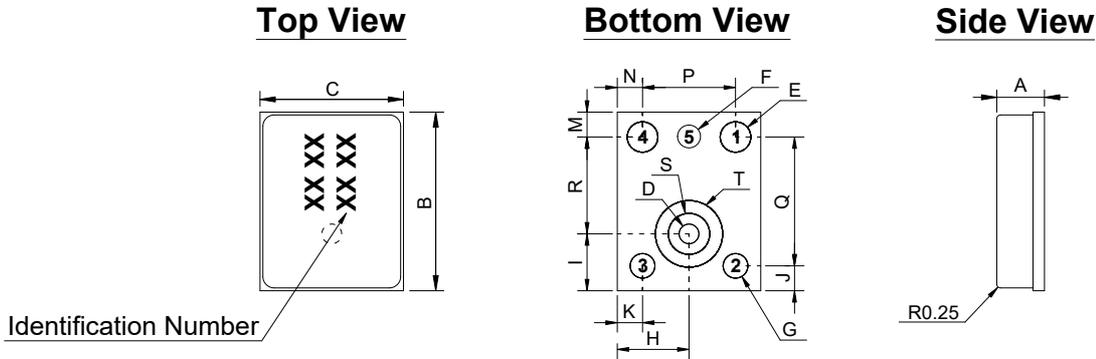

Figure 8. Mechanical Layout of SPM04C-38/1186
- 6.3.1.** Layout and Dimension : See Section 9, Figure 8